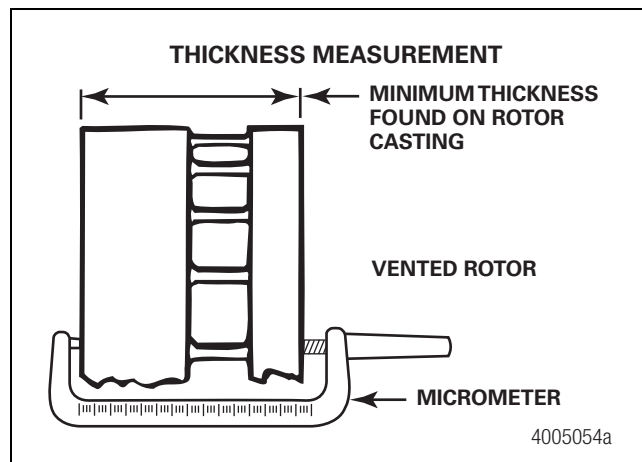

Figure 7.7
1. Use a micrometer to measure the rotor thickness. If you are replacing the brake pads, the rotor should be replaced if the rotor thickness is less than the minimum discard thickness found on the rotor casting. Figure 7.7.